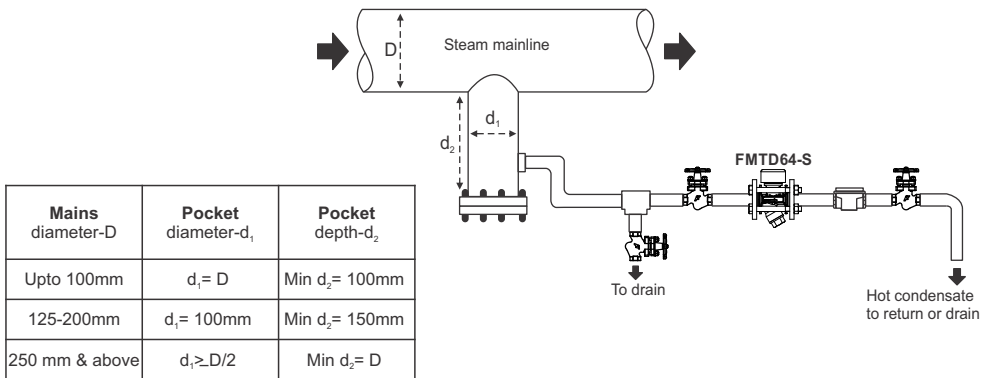

Figure 4: Recommended installation of Forbes Marshall Thermodynamic Trap on mainline
5. Installation Guidelines: [Refer figure 4]